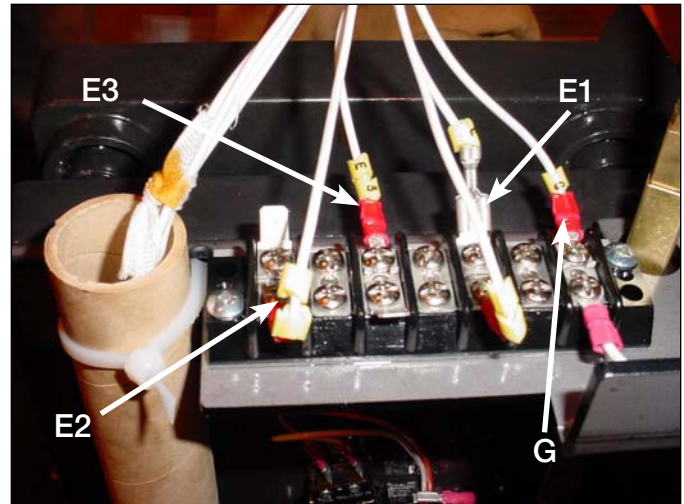

Figure 6. E & P Lead Connections.
- Use a Phillips head screwdriver and needle nose pliers to disconnect the white E control winding leads, and P leads if available, from the seven position terminal board located on the left top of the tap changer. See Figure 6.